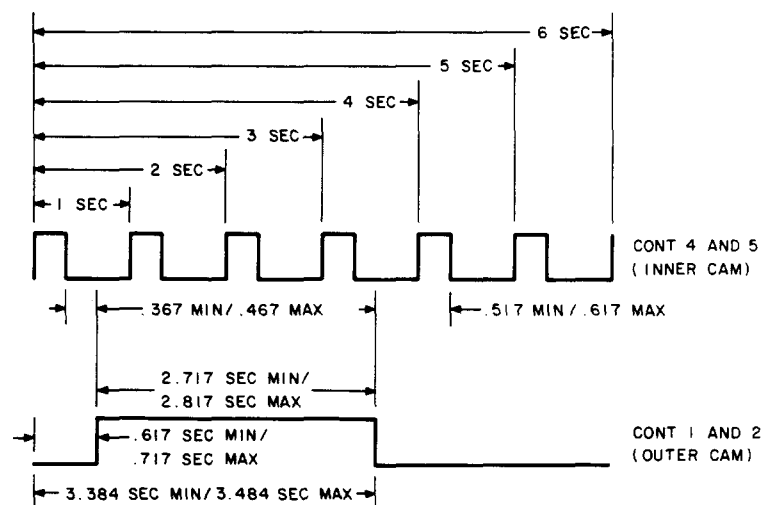

Fig. 6—4B Timer (Mfr. Disc.) —One Cycle
(1) The timing interval and cam overlap measurements for the 4B timer (Mfr Disc.) can best be made with a strip chart recorder. A recorder with at least two pens is needed. It should have sufficient chart speed to give the required precision. The output of the timer, as recorded, can be compared to the times shown in Fig. 6.